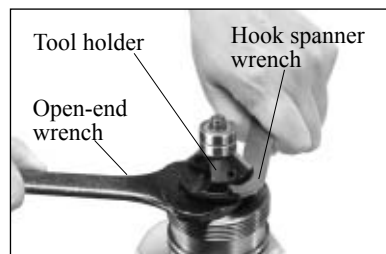

Fig.5
5. Replace and adjust the support deck assembly. See fig.5